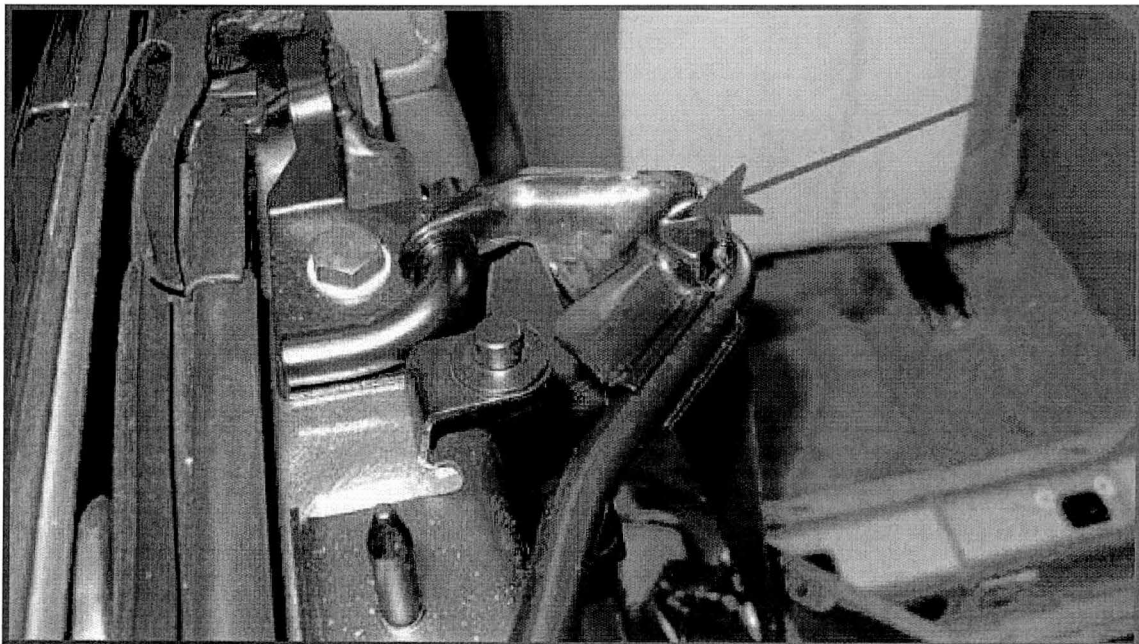

Figure 3
2. Remove the left hand side seat belt webbing guide (Figure 3) from the 'D' loop